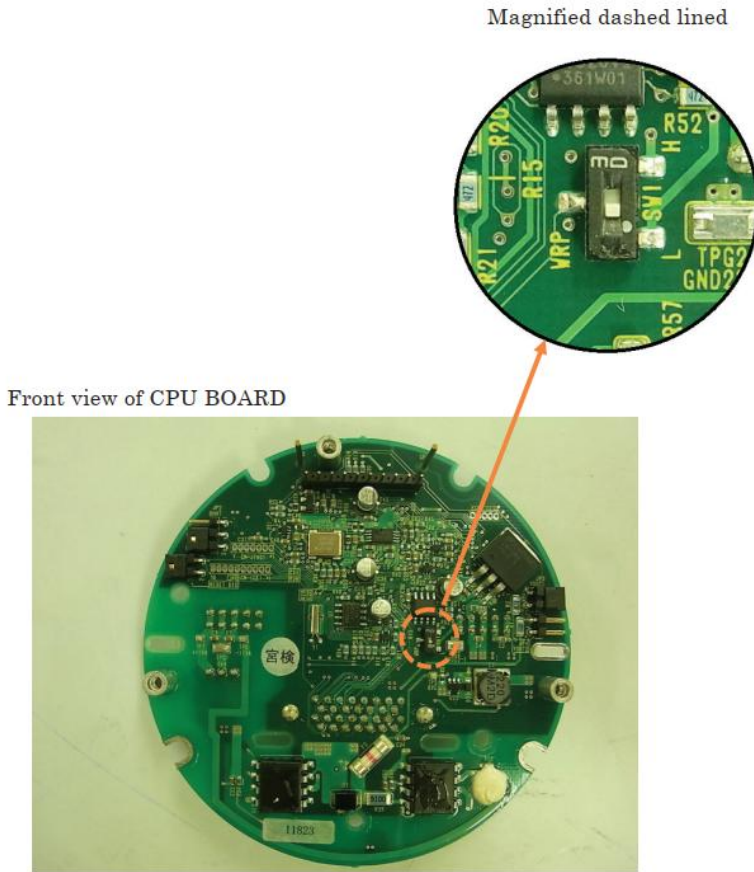

Fig. 4: Front-view of the CPU-board with write-protect-switch, which is accessed by removing the transmitter front lid and the LCD board
- Write-protect-switch: positioned on the CPU board as shown in fig. 4
The setting of the write-protect-switch is done via SW1 (see fig.4, circled dashed line) on the CPU-board, which is accessed by removing the transmitter front lid and LCD board.